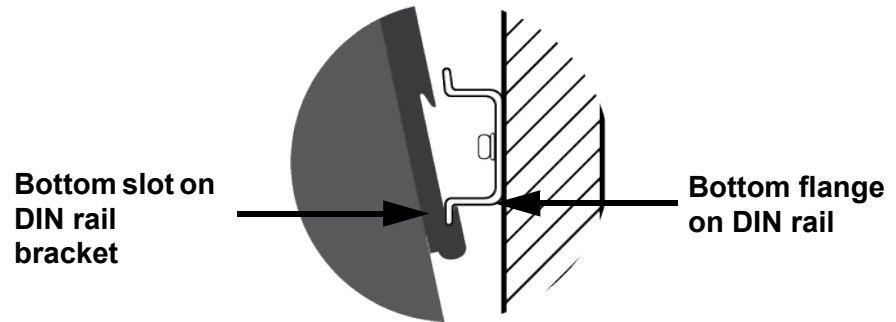

Figure 18. Installing the Switch on a DIN Rail - 1
2. Hook the bottom flange on the DIN rail into the bottom slot on the DIN rail bracket on the switch. Refer to Figure 18.